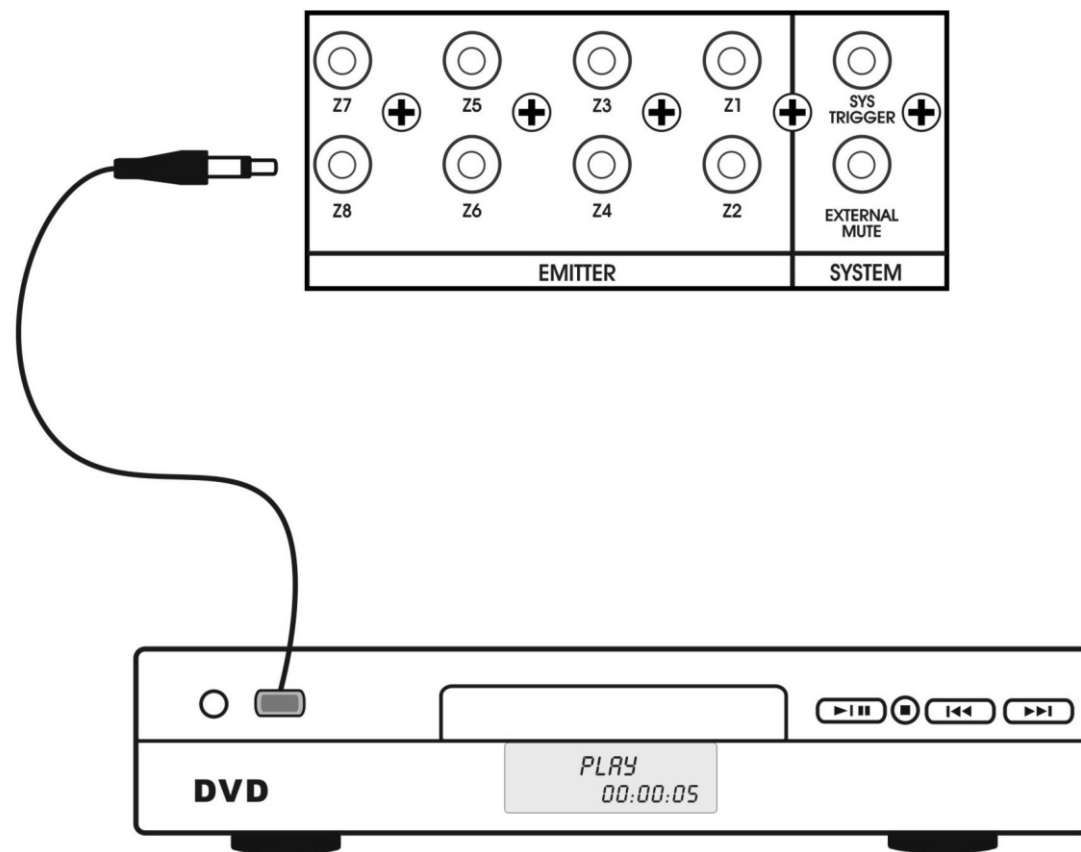

Figure 5: ADDRESS/AGC DIP Switch Setting
11. **AGC/Address Select:** Using the Address & AGC (Auto Gain Control), no need to regulate the volume of each source, the volume of output will automatically be ranged at the same level. (see Figure 5)